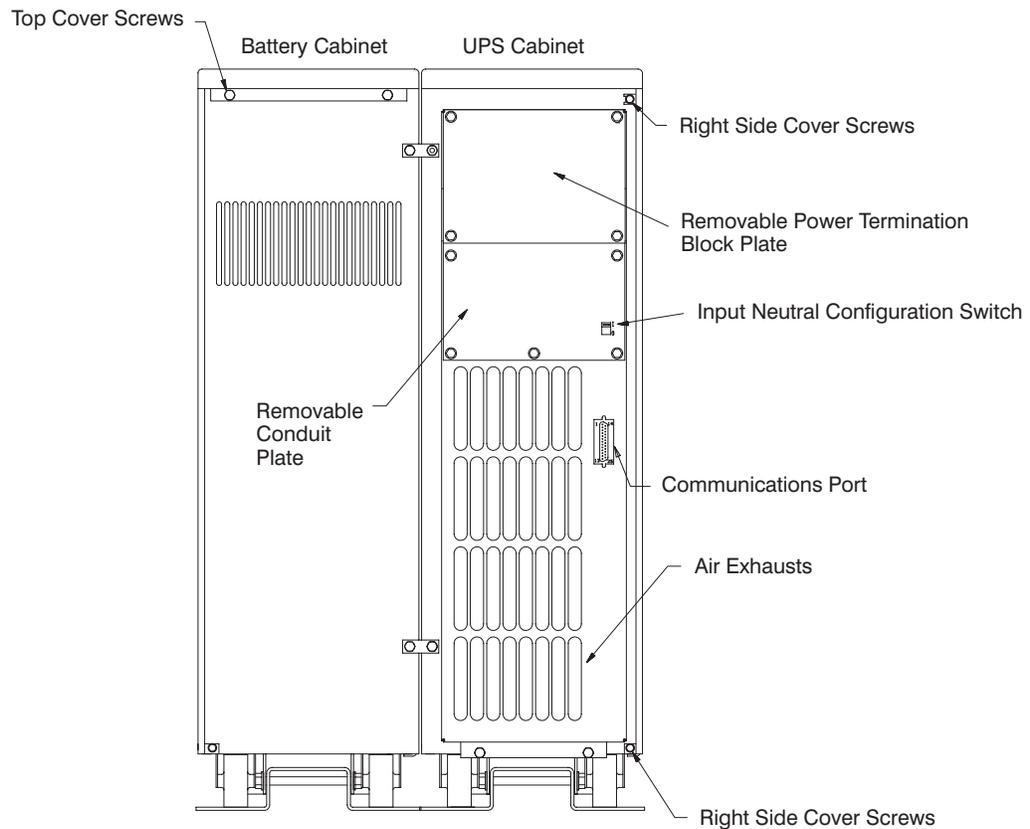

Figure 9. Rear View of the Plus 18 UPS
7. Remove the two screws located at the top rear of the battery cabinet (see Figure 9). Retain the screws.
10. Remove the right side cover of the UPS cabinet by removing the mounting screws (four each) as shown in Figures 9 and 10.
1. Locate the Input Neutral Configuration switch on the rear panel of the UPS (Figure 9 on page 39).